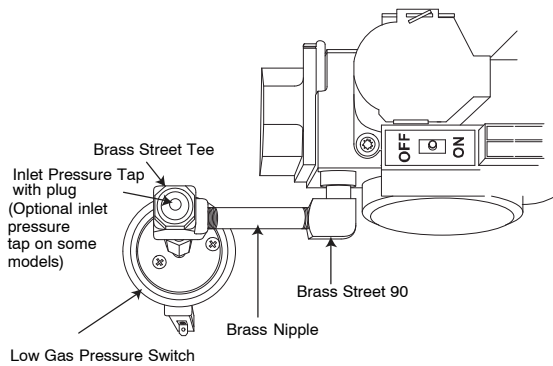

Fig. 10 – Alternate Low Gas Pressure Switch – 17 1/2-in. (445 mm) and wider furnaces
If the vent pipe does not pass between the inducer and burner assembly, or the furnace is wider than a 14 3/16-in. (360 mm) wide casing, install the switch as follows (See Fig. 10):
1. Remove Low Gas Pressure Switch, brass street tee, brass nipple and brass street 90° elbow from the gas valve inlet pressure tap. (See Fig. 10.)